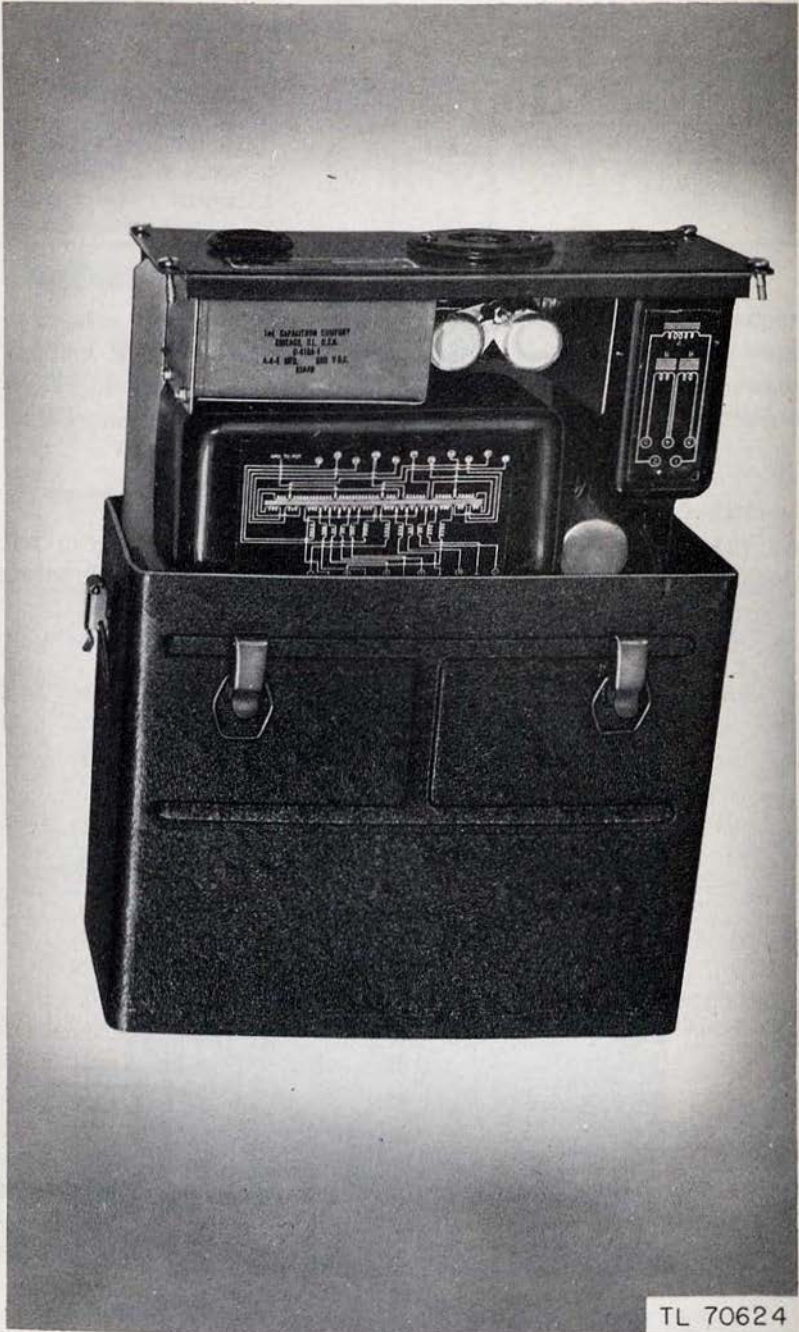

Figure 4. Vibrator Power Supply PP-114/VRC-3, chassis and outer case.
c. Flanges on the chassis slide into slotted brackets mounted on the outer case. These locate the chassis in the correct position and also hold it in place. Four screws in the corners of the panel provide an additional means of fastening the chassis (fig. 4). Two D rings are located on the chassis panel to facilitate removal of the chassis from the outer case. Snap fasteners are provided for fastening the power supply to the radio set.
(3) Remove chassis from the outer case (fig. 4) and check the following: